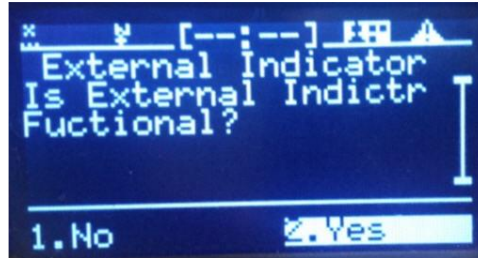

Figure 16: Forklift Gateway (VAC) External Indicator Enabled when Test Screen Displayed and No selected and Disabled when Yes selected
- Use Forklift Gateway (VAC) keypad and VIM Output 107 verification process to Enable and Disable the External Indicator (see **Figure 15** and **Figure 16**)